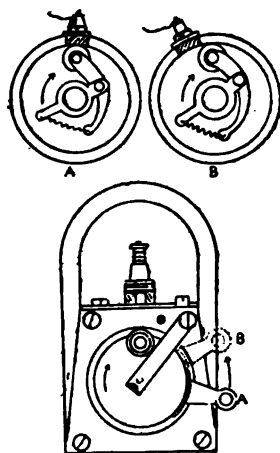

Fig. 42
In the diagram 1 the piston is shown just as it reaches the upward limit of its stroke, with the timer set to produce the spark at this point (A). If we assume that the spark does not actually ignite the charge until the fly-wheel and piston have reached the position shown in 2 we will see that the lag of the spark amounts to a space of two inches on the fly-wheel, as indicated at A to B, when it is moving at a given speed, say two hundred revolutions per minute. If the speed of the motor is now increased to four hundred revolutions per minute the face of the fly-wheel will travel just twice as far in a given time, and hence *four inches* of its circumference will have passed the upper center when the spark ignites the charge, as shown in diagram 3, A to C, and consequently the piston will have descended quite a distance in the cylinder, and only a portion of the force of the exploding-gas will be utilized and a great deal of power will be lost. Moreover, when the spark occurs very late a motor will heat up badly and will waste a great deal of fuel. To overcome this delay in ignition with increased speed means must be provided for altering the position of the sparking mechanism to correspond with the speed of the motor and overcome the lag in firing. This is readily done by having the timer, or the breaker of the magneto, movable, so that it can be rotated through a limited arc, as shown in Fig. 42, to correspond to the motor's speed. Thus, when a motor is moving slowly or is turned by hand for starting the timer is placed in the position shown at A, and the spark does not occur until the piston has passed the upward limit of its stroke; but as the motor speed increases the timer is pushed forward until the spark takes place some time before the piston reaches the upward limit of its stroke, as shown at B, thus counteracting the lag and producing an explosion which will exert its full power on the